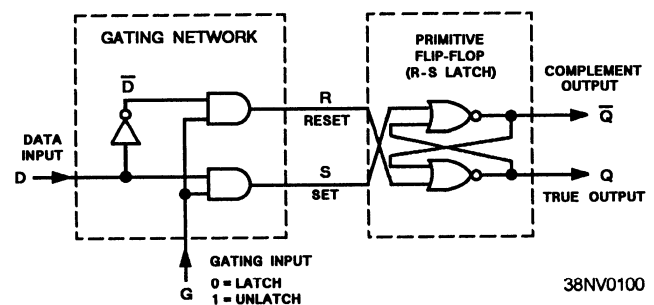

Figure 4-14.—Example of a gated operation.
• Gated (latched) operations —This term is used when describing logic functions that can be **turned on** or **turned off**, dependent upon an input control signal (command or enable). See figure 4-14.